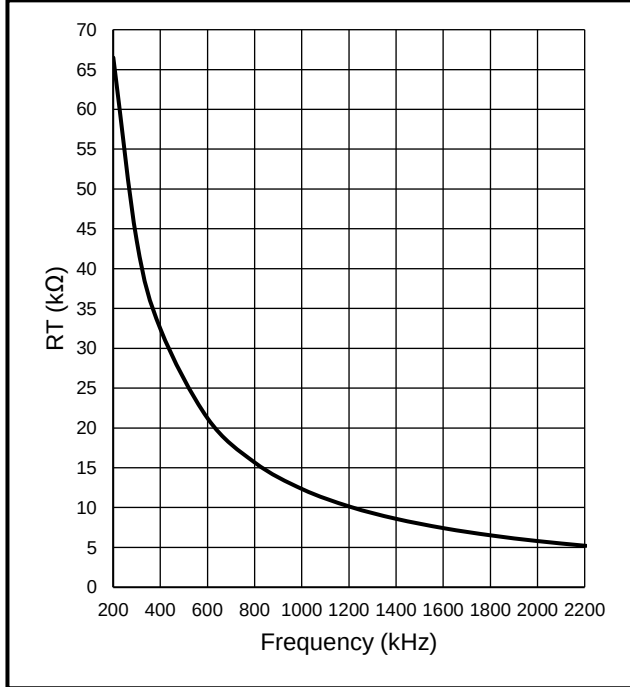

Figure 10-5. RT and Switching Frequency Relationship
A resistor from RT to AGND is needed to set target switching frequency. **Equation (3)** and **Figure 10-5** can be used to determine the resistance. If synchronization to an external clock is needed, do not apply the signal to RT pin. Instead, EN/SYNC can be used for external clock synchronization.